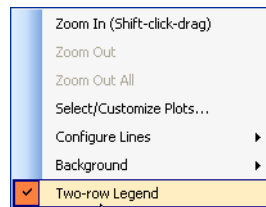

Figure 111 Setting the Two-row Legend
- ▶ You can set a two-row legend as shown in Figure 111.